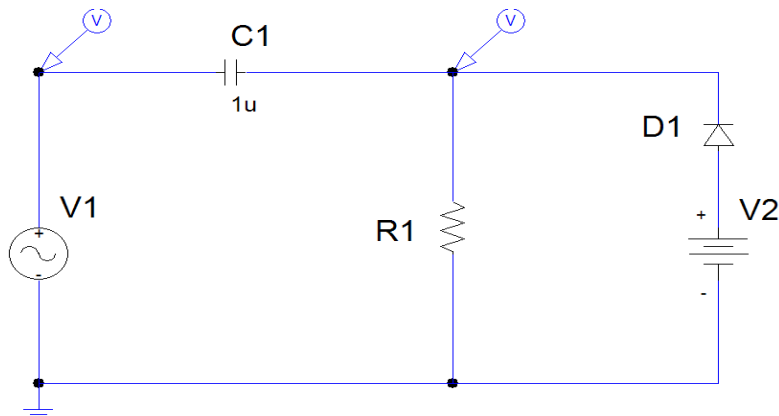

Fig.3. Clamper Circuit
- 3.1. Draw the circuit shown in Fig. 3 in PSpice schematics using 1N4001 (or any other) as diode module.
- 3.2. Here, for determining the input vs. output characteristics V1 is set to 1KHz and 10V (peak). Set $R1 = 1\text{M}\Omega$, $C1 = 1\mu\text{F}$ and $V2 = 5\text{V}$. Connect voltage markers as indicated in Fig. 3. Set transient analysis upto 5ms.